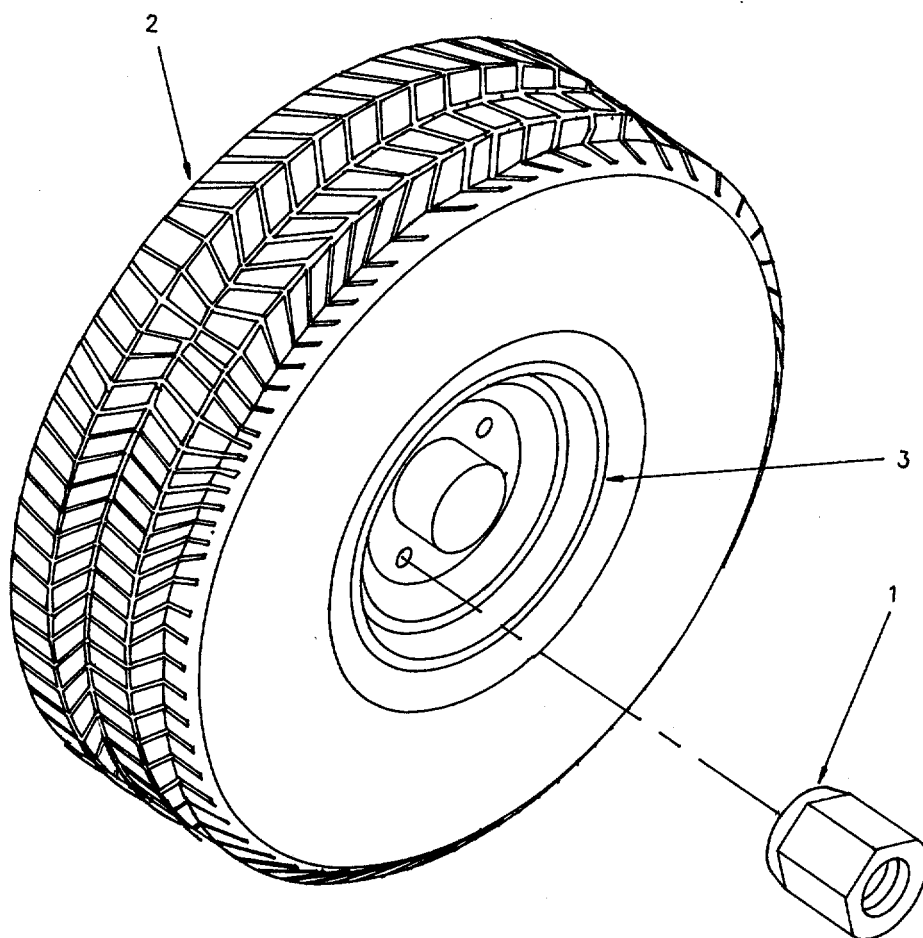

Figure 4-27. Pneumatic Tire Wheel and Pneumatic Tire.
- (1) Raise trailer base until pneumatic tire (2, Figure 4-27) is clear of ground surface and use support equipment.
- (2) Remove plain hexagon nuts (1).
- (3) Remove pneumatic tire (2) and pneumatic tire wheel (3) from vehicular wheel hub.